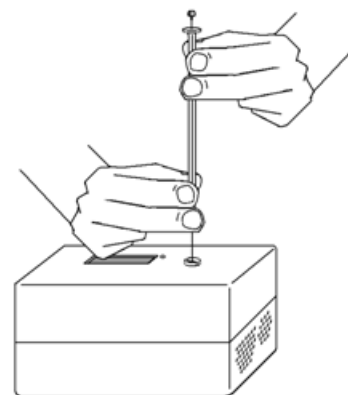

Figure 1
- a. To insert the needle of the syringe into the injection port of the Mini GC, hold the syringe with one hand and steady the needle with your other hand. **Important:** Supporting the needle guard and the lower part of the needle with two fingers, as shown in Figure 1, can prevent the possible bending of the needle. Insert the needle into the injection port until the needle stop is fully seated. If the needle sticks, rotate it slightly while inserting. Do not move the plunger yet.